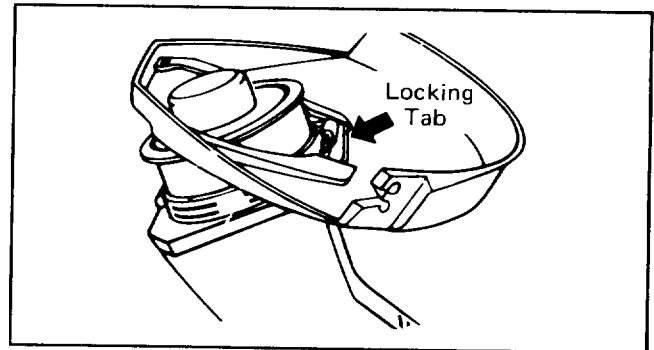

Figure 6
2. Tilt grass shield so that back side of shield is under locking tab (Fig. 6).